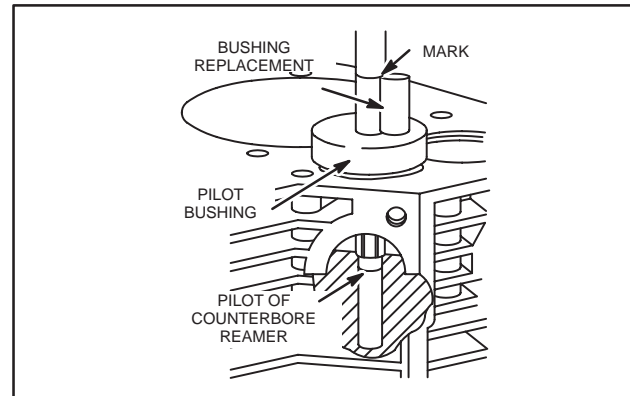

Fig. 11 – Mark Reamer
3. Mark reamer level to $1/16$ " (1.6 mm) above top edge of service bushing, Fig. 11.